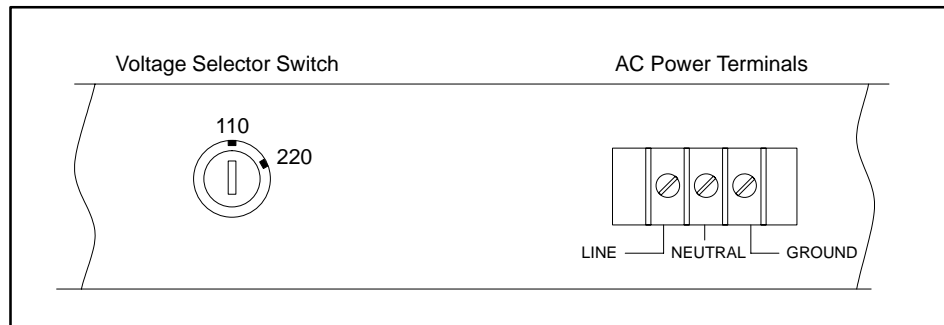

Figure 4-1 Fan Assembly Rear Panel
To install the fan assembly, you must perform three tasks: select the correct voltage, connect power to the AC terminals, and mount the assembly. Because the voltage selector switch and AC terminals are located at the rear of the unit (see Figure 4-1), you should set the voltage selection and connect power before mounting the fan assembly.
1. Ensure that all power to the system is off before making any changes to the voltage selector switch (shown in Figure 4-1).
2. Connect power lines to the AC terminals (shown in Figure 4-1).